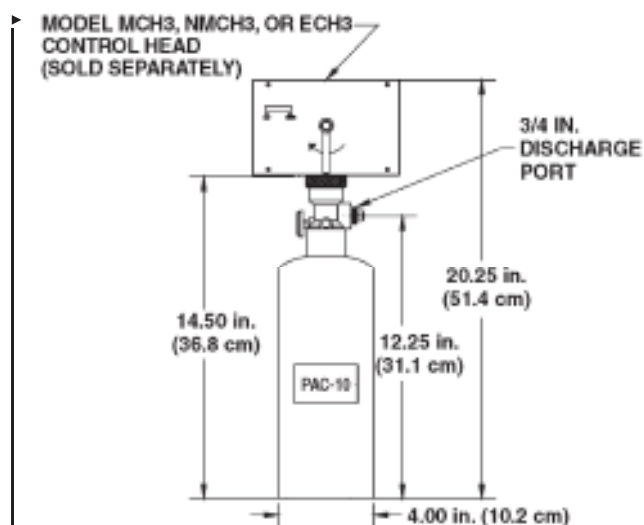

Figure 2-8. Model PAC-10 Pneumatic Actuating Cylinder.
The Model PAC-10 is a pneumatic actuating cylinder that can actuate a maximum of ten (10) agent cylinders simultaneously. The Model PAC-10 includes a DOT 4BA350 cylinder pressurized with dry nitrogen to 350 PSIG @ 70° F, a brass valve with pressure gauge, and a wall mounting bracket. A Model MCH3, NMCH3 or ECH3 control head must be purchased separately and connected to the PAC-10 to open the valve. **See Figure 2-8.**